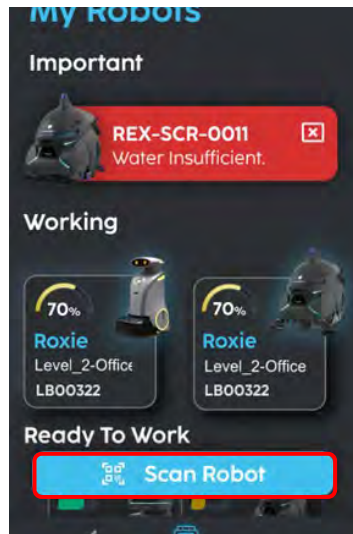

Fig. 1
1. Click on 'Scan Robot' on the My Robots Page (Fig. 1).